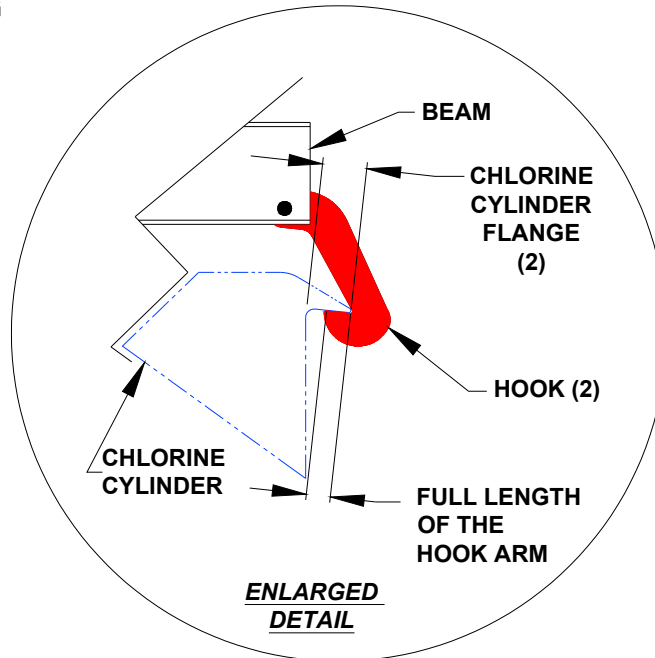

Figure 2
3. **See Figure 2 (Enlarged Detail)**, Know that each Chlorine Cylinder flange is securely resting on the full length of the hook arm (within the spread limits, 80-3/4" to 82-1/4").